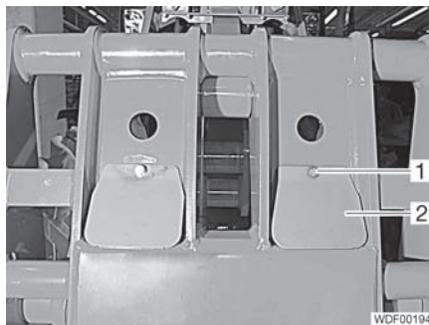

Fig. 216 Covers
- Unscrew 1 screw (Fig. 216,1) for each.
- Remove the covers (Fig. 216,2).
- Place on the covers (Fig. 216,2).
- Screw in and tighten 1 screw (Fig. 216,1) in each case.